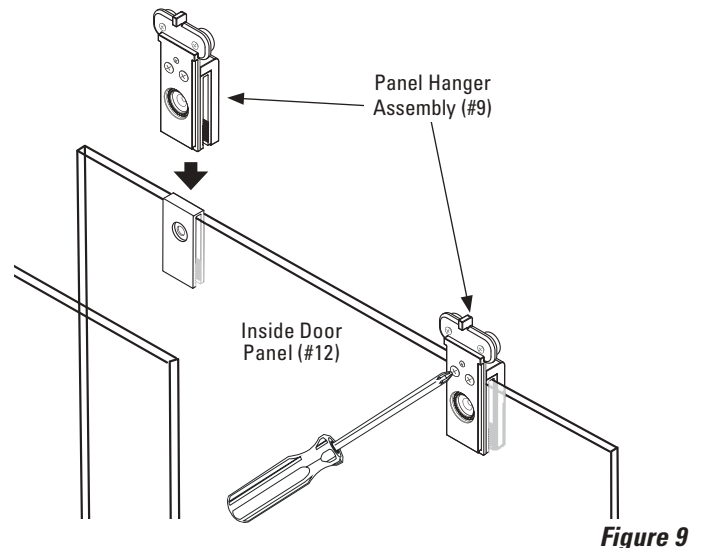

Figure 9
M. Attach the remaining two Clamp Assemblies to the top of the Inside Door Panel, with rollers facing into the enclosure (See **Figure 9**). Do not over tighten.